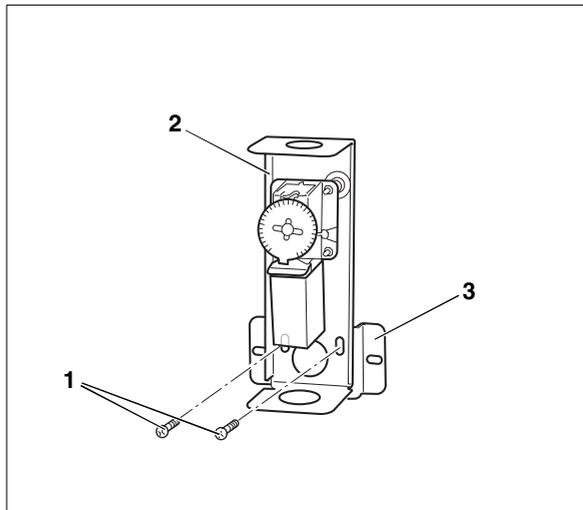

Fig. 8 Attaching bracket to aquastat
- Secure mounting bracket (Fig. 8, **Item. 3**) furnished with tank to base of aquastat (Fig. 8, **Item. 2**) using the 2 screws (Fig. 8, **Item. 1**). (One may need to remove prior mounting bracket).